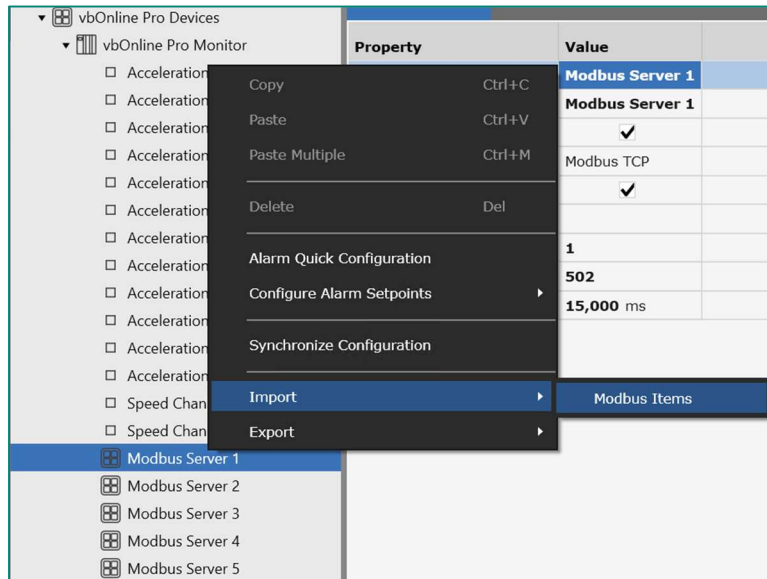

Figure 6: Import Modbus Points
4. To efficiently create and modify Modbus points, export the "Modbus Items" csv file from System 1. Modify the points in the template and import the template file back into the database (Figure 6).